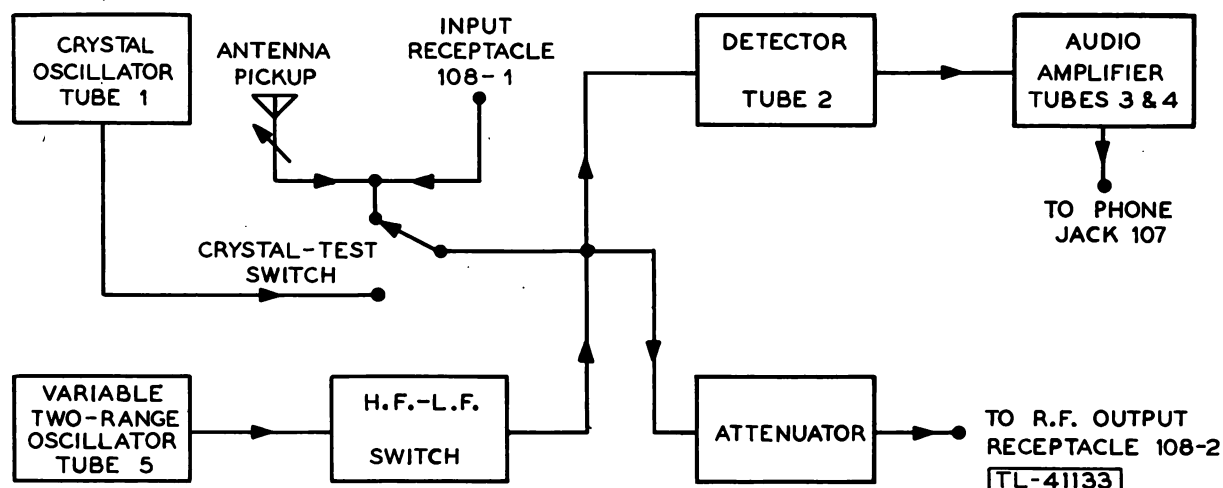
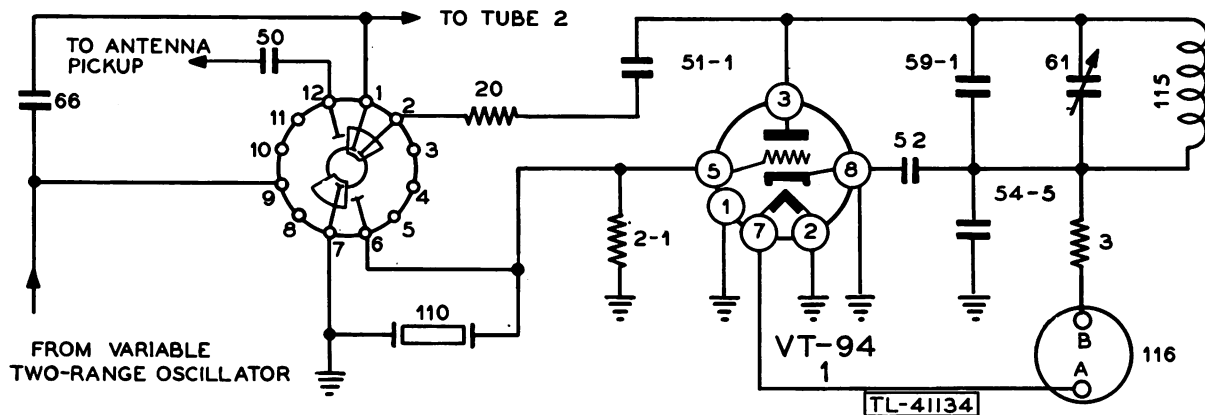

Figure 3. Signal Generator I-222-A, block diagram.
Figure 4. Crystal oscillator.
(1) Figure 3 is a block diagram of Signal Generator I-222-A. Six tubes are utilized: one Tube VT-94 (1) as a crystal-controlled oscillator to calibrate the frequency of the test oscillator; one 9006 tube (2) as a detector; two Tubes VT-116 (3 and 4) as a two-stage audio amplifier; one Tube VT-202 (5) as a variable two-range test oscillator; and one Tube VT-197-A (6) as a full-wave rectifier for the power supply.
(2) The circuit also comprises an r-f input receptacle, an -r-f output receptacle, antenna pick-up, switches, jacks, an attenuator, and headphones.
b. **Crystal Oscillator Circuit (fig. 4).** Tube VT-94 (1) is used as a conventional, crystal-controlled, self-excited oscillator. The crystal is of the AT-cut type, ground to 5 megacycles, and housed in bakelite.
(1) The plate tank circuit, consisting of coil 115, capacitor 59-1, and variable capacitor 61, is tuned a little below the resonant frequency of the crystal so that tube VT-94 draws slightly more than minimum plate current. This insures greater frequency stability and an output of high harmonic content, which is important, since the second and third harmonics of the crystal oscillator are used in calibrating the low-frequency range of the test oscillator and the ninth and fifteenth harmonics in calibrating the high-frequency range.
(2) The output of the oscillator is coupled from the plate through a blocking capacitor